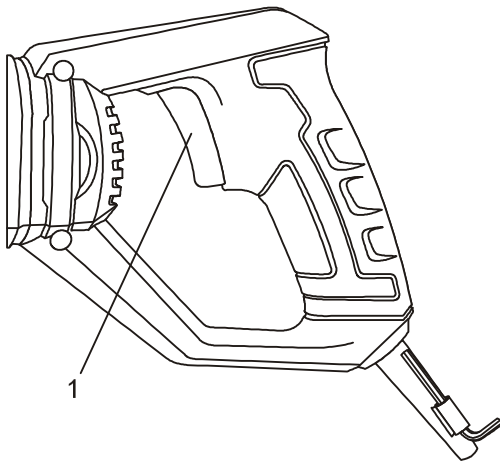

Fig. 3
1. To turn the saw ON, squeeze the switch trigger (1) slightly (Fig. 3).